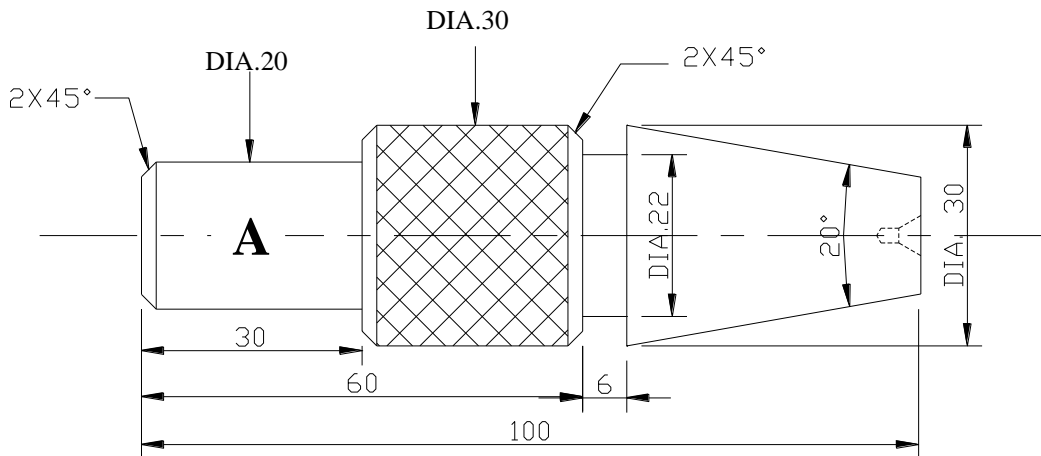

Figure 3
3. Figure 3 shows a component that is to be produced on the centre lathe from a piece of mild steel stock 32 mm in diameter by 105 mm long.
- (e) Calculate the spindle speed that is to be used to produce the section marked 'A' on Figure 3, if the cutting speed of the material is 30 m/min. **(2 marks)**